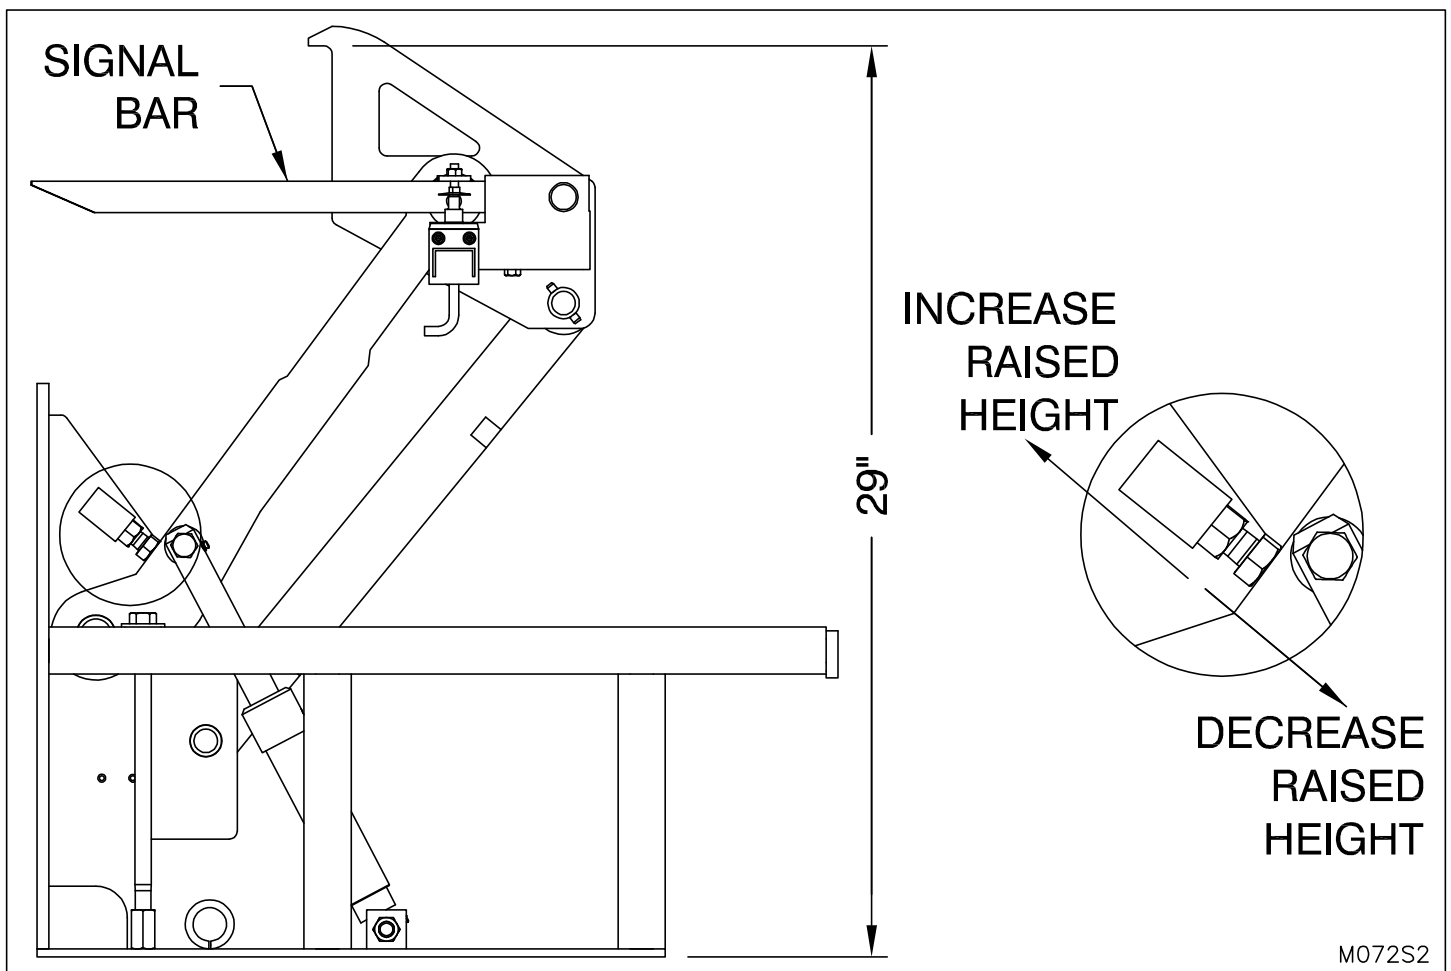

Figure 24: Raised Height Adjustment
**IF RAISED HEIGHT IS TOO LOW:** Loosen stop block locking nut. Turn adjustment bolt **in** to **increase** raised height. When proper height is achieved, tighten lock nut against the adjustable stop block. (See "Figure 24: Raised Height Adjustment" on page 32)
**IF RAISED HEIGHT IS TOO HIGH:** Loosen stop block locking nut. Turn adjustment bolt **out** to **decrease** raised height. When proper height is achieved, tighten lock nut against the adjustable stop block. (See "Figure 24: Raised Height Adjustment" on page 32)